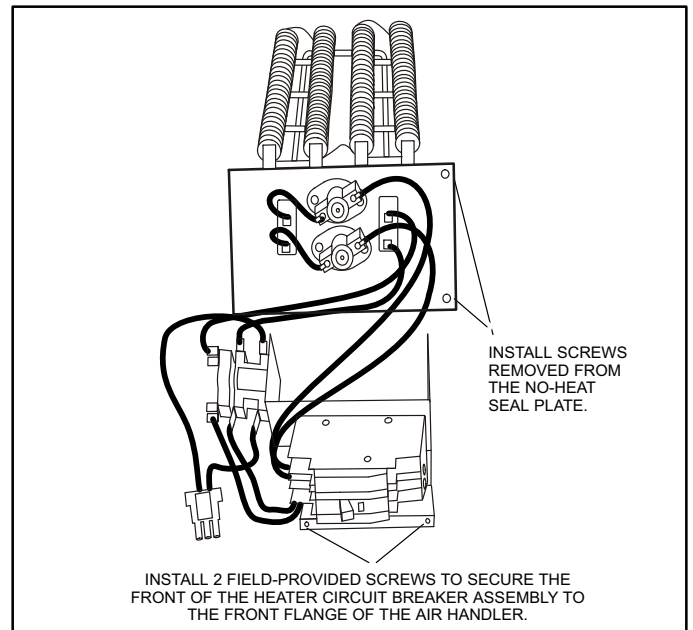

Figure 14. Installing the Heat Element Assembly
6. Secure the electric heater assembly with the screws that were removed from the heat element panel. Install two field-provided #8 self-tapping screws in the front of the electric heater assembly (see figure 14).